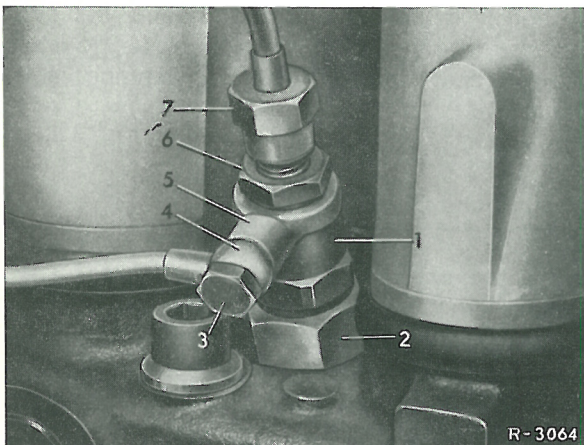

Fig. 07-44/1
**1** Take off cap nut (7) retaining injection pipe (Fig. 07-44/1).
**2** Unscrew hexagon nut (6) holding the through-way jointing piece (5) and the hollow bolt (3) that forms part of the union of the leak-off oil pipe (4) and anchors it in position.